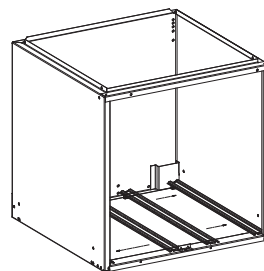

Fig. 5 - Support Rails Installation
4. Place the two **support rails** in the sides of the casing and the **collar** as indicated in Fig. 5 & 6.